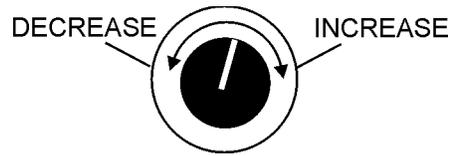

Figure 47. Voltage Adjust Control Knob
8. If the voltage is not within the specified tolerance use the voltage adjustment control knob (Figure 47) to increase or decrease the desired voltage.